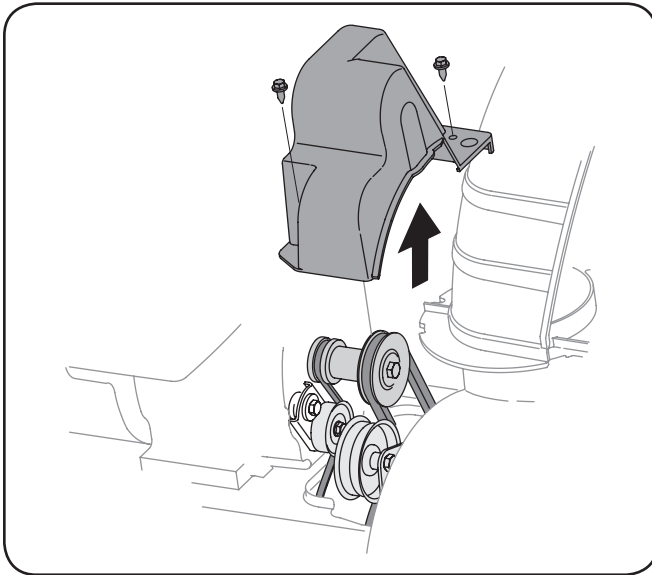

Figure 7-1
2. Remove the plastic belt cover on the front of the engine by removing the two self-tapping screws. See Figure 7-1.
2. Remove the plastic belt cover on the front of the engine by removing the two self-tapping screws. Refer to Figure 7-1.